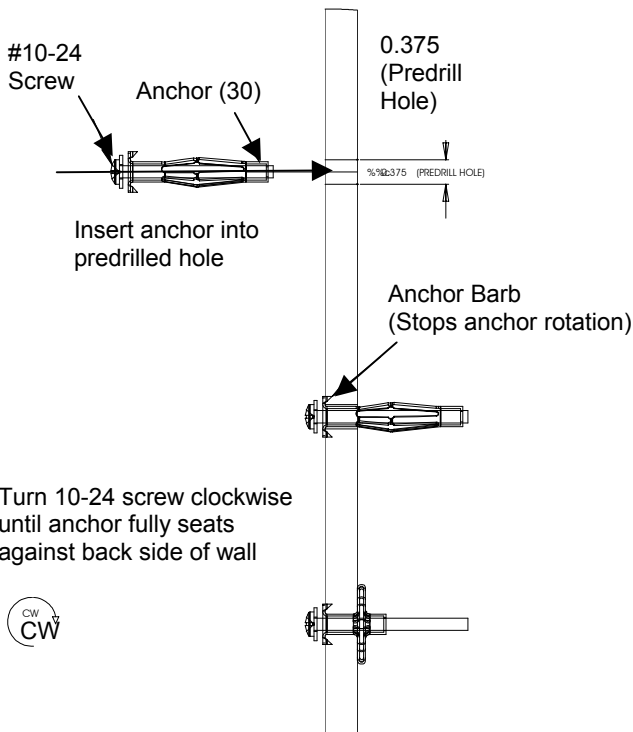

Figure 1. Anchor Installation
- D. Install an anchor (30) in one of the pilot holes and tighten anchor bolt until it is fully seated (see Figure 1).
- E. Remove and retain bolt from anchor (30) and repeat Step 1.D and 1.E for three remaining anchors (30).
- F. Using four bolts, with washers installed, secure wall bracket (20) to wall.